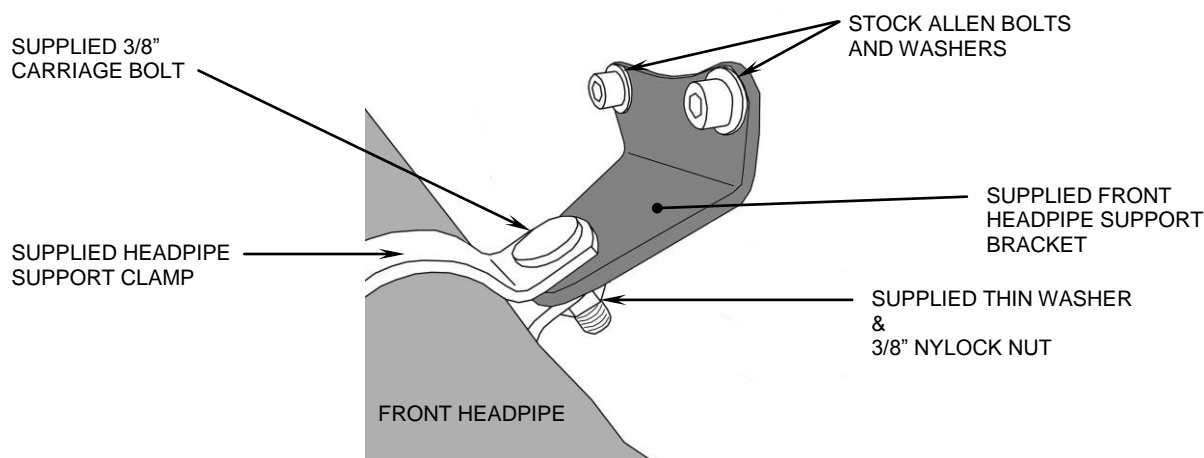

FIGURE 2
6. Remove the stock front headpipe support bracket from the right side of the motorcycle and replace with the supplied front headpipe support bracket and tighten the stock bolts and washers to factory specifications. See Figure 2.
8. Install the front headpipe on the motorcycle using the stock flange nuts to secure it to the exhaust port studs, but **do not tighten** at this time. Slide the headpipe support clamp onto the headpipe and over the supplied exhaust mount installed in Step 6; make sure the clamp's square hole is on top. Insert the carriage bolt through the brackets then install the supplied thin 3/8" washer and nylock nut but **do not tighten** at this time. See Figure 2.